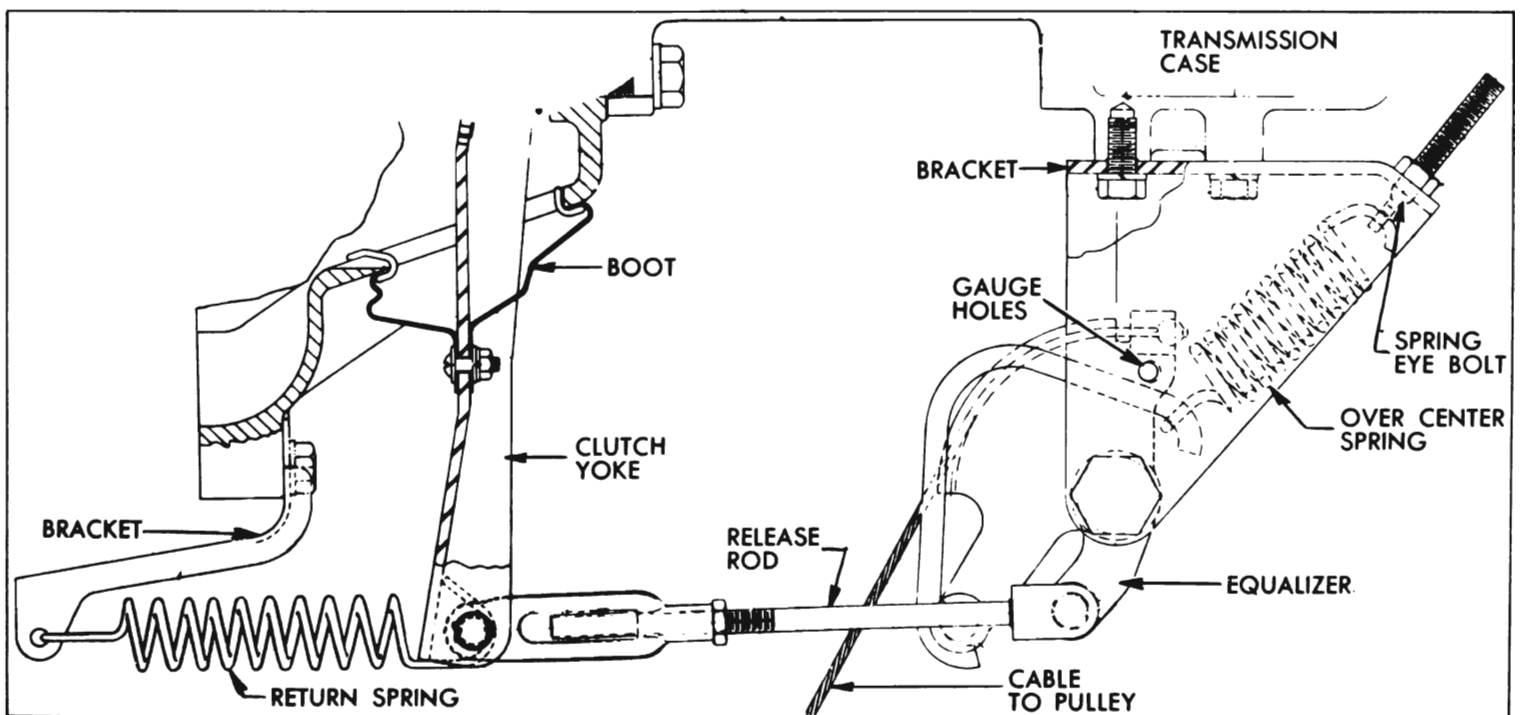

Figure 4-4—Lower Clutch Release Mechanism (from Above)
The pedal pivots on nylon bearings which do not require periodic lubrication. The cable runs over a pulley and is fastened to the equalizer. The pulley is adjustable so it can be aligned with the cable. The cable length is adjustable so that the equalizer can be properly positioned (par. 4-4). The correct equalizer position is such that the equalizer over center spring helps to hold the pedal firmly against the pedal bumper when the pedal is released. However, after the pedal is slightly depressed, the over center spring helps to reduce pedal pressure. This spring is attached to the equalizer bracket by an eye bolt, and to a pin on the equalizer by an extension which straddles the pivot point of the equalizer. See figure 4-4. The equalizer has a fitting which should be lubricated periodically (par. 1-1).
1. Make certain that return spring pulls clutch pedal firmly against pedal bumper when pedal is released. If pedal does not contact bumper, check pedal and linkage for binding or lack of lubrication. Check condition of release yoke return spring. Check condition of equalizer over-center spring and make sure that spring eye bolt is fully tightened. See figure 4-4.